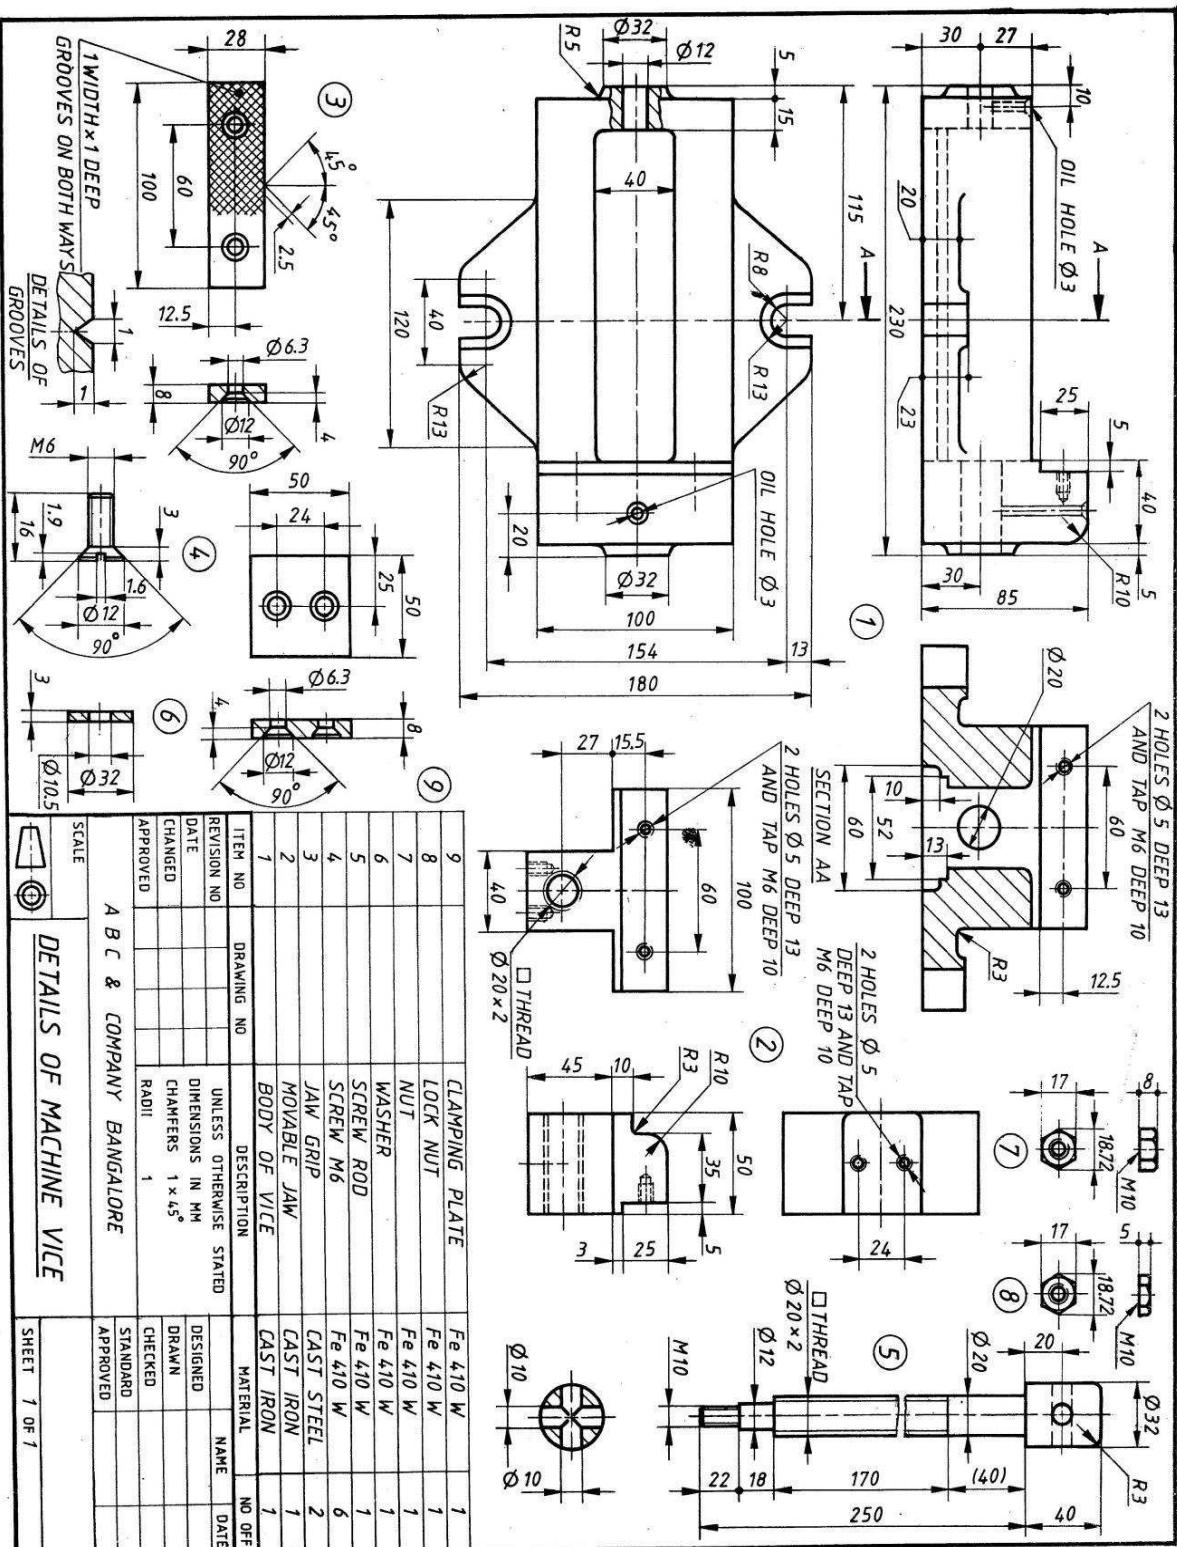

Figure 2 MACHINE VICE'
- 6.** Details of 'MACHINE VICE' are shown in following Figure 2. Assemble the parts and draw the following views of the assembly.